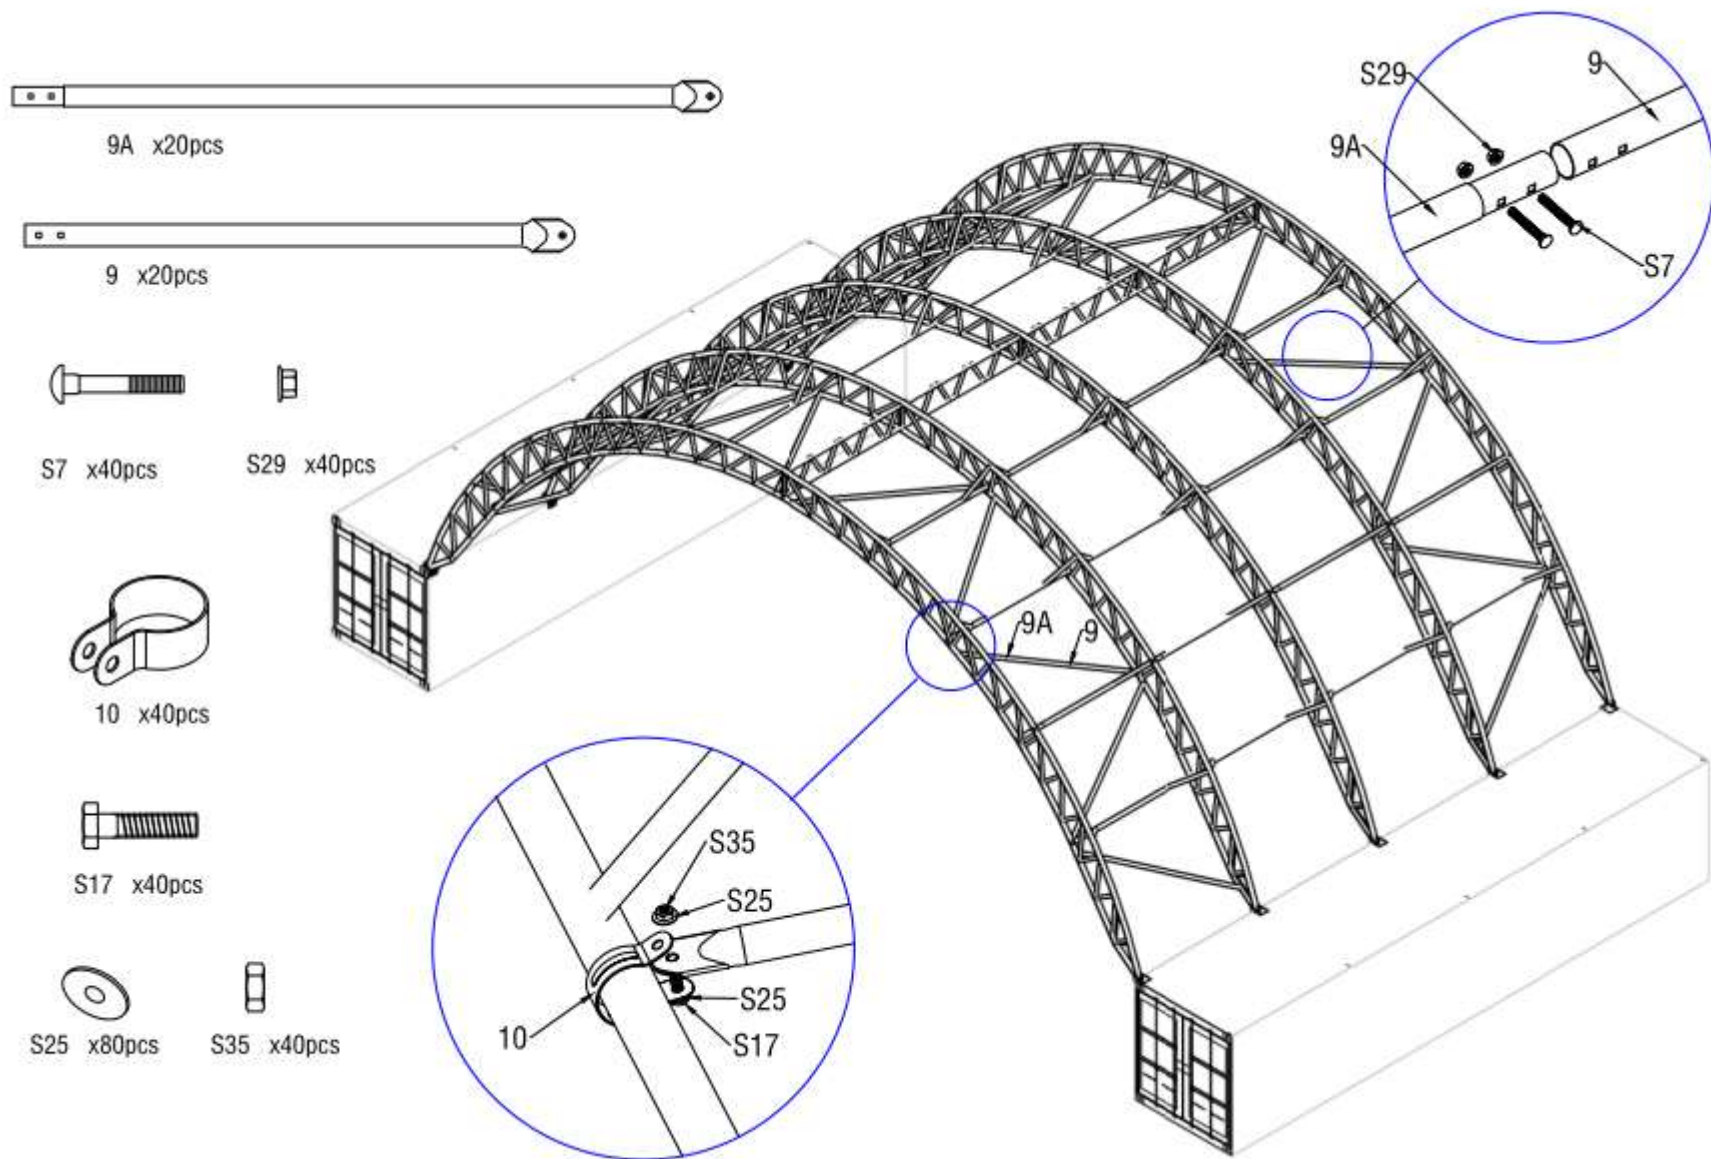

Figure 8
2.6. Connect Diagonal Support Tube(Part no.9) to arch by using Part no. 10 as Figure 8 shows.